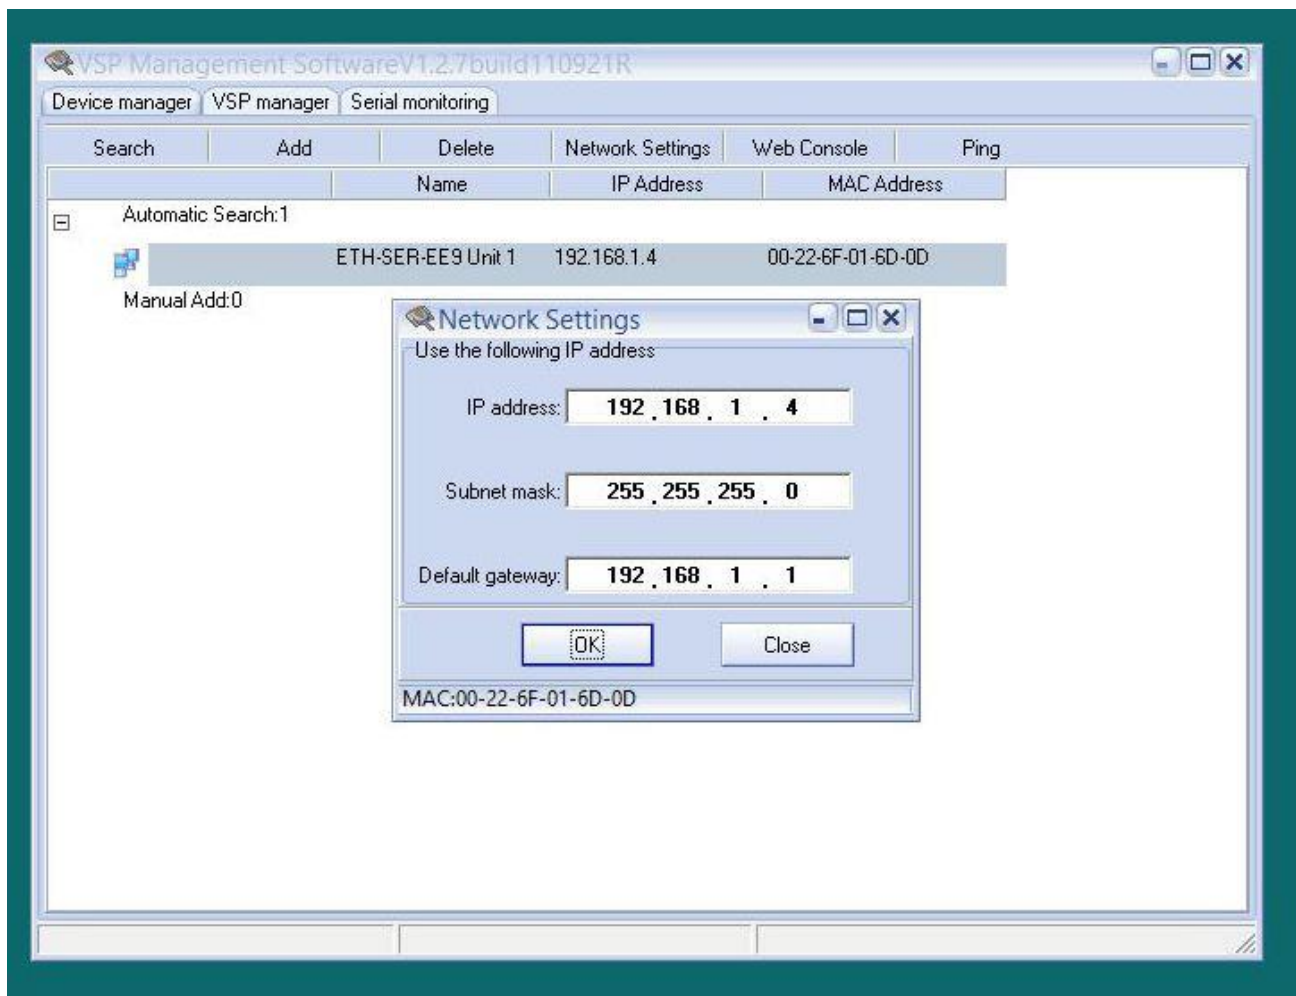

FIGURE 4.5 – ALTERING THE NETWORK SETTINGS
- 6) Highlight the search results and select Network Settings. Now you must put in the correct IP information. Our IP will be 192.168.1.4 - 192.168.1 for the matched network and 4 for the unique ID. Enter the subnet mask. Our subnet mask is 255.255.255.0 (the three 255s masks the network id and 0 masks the unique ID). The Default Gateway is 192.168.1.1. Your information will be different. (SEE FIGURE 4.5)